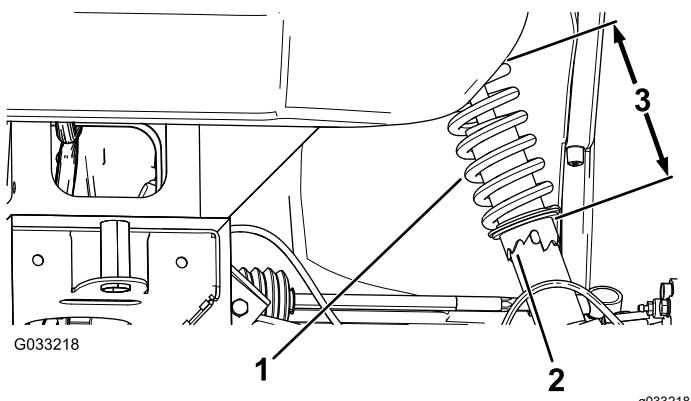

Figure 53
2. If the wheel camber is out of alignment, use the spanner wrench to rotate the collar on the shock absorber to align the wheel (Figure 53).